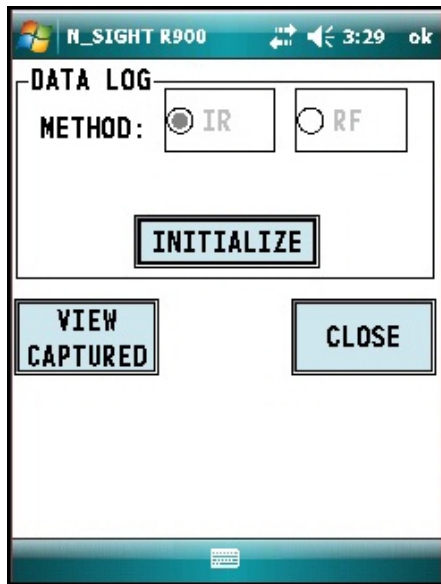

Figure 51 – Initialize RF Device
2. The Initialize Device screen appears if you are not connected or you are not in range of your R900 BCT. Click **INITIALIZE**. See Figure 51.